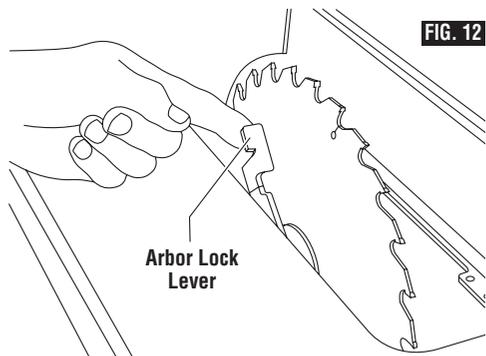

FIG. 12
3. Lift up arbor lock lever and slowly rotate blade by hand until lock fully engages saw arbor and stops rotation (Fig. 12).